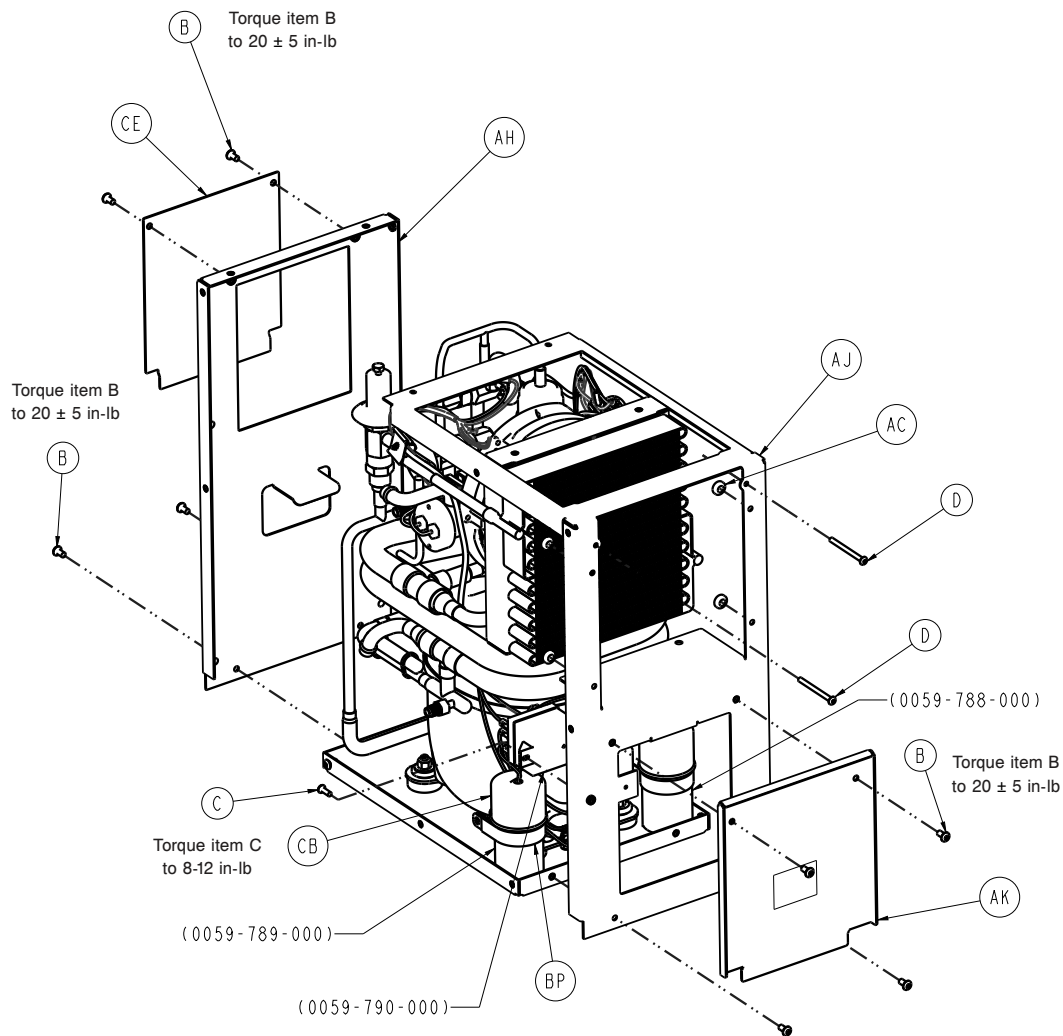

Figure 29 – Fan assembly
14. Using a 3/32" hex wrench, remove the two screws (D) that secure the fan assembly to the frame (Figure 29). Save the screws.